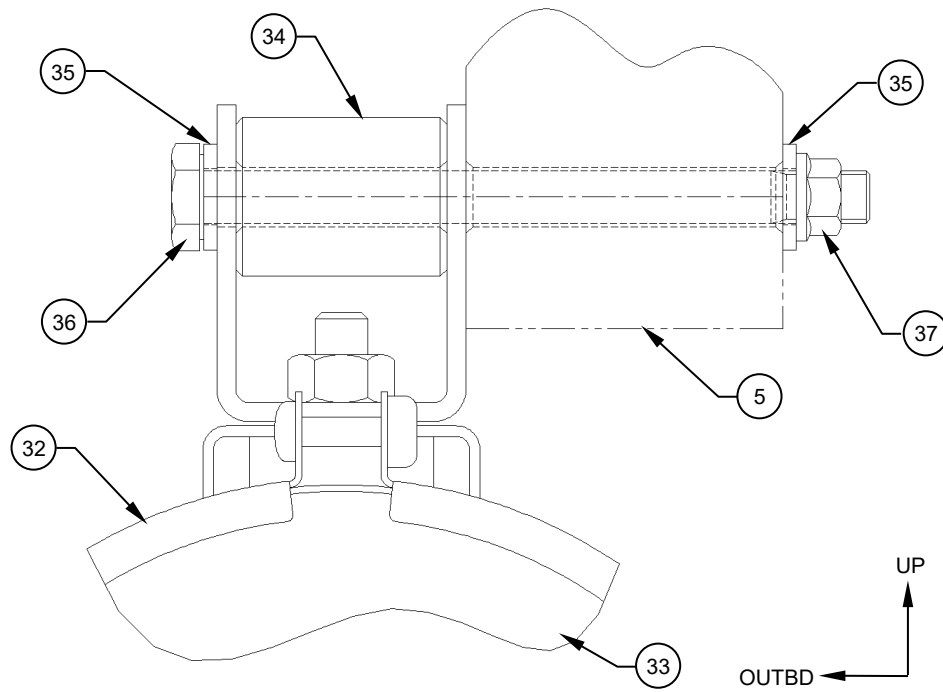

Figure 9
17. Install the Housing, Assys (Item 32) on the Mounting Block, Assys (Items 4 & 5). Reference Figures 9 & 10.
18. Connect the Wiring Harness, Assy (Item 40) to the appropriate Housing, Assys (Item 32) and assemble with Lamp, Assys (Item 33). Reference Figures 9, 10 & 13.